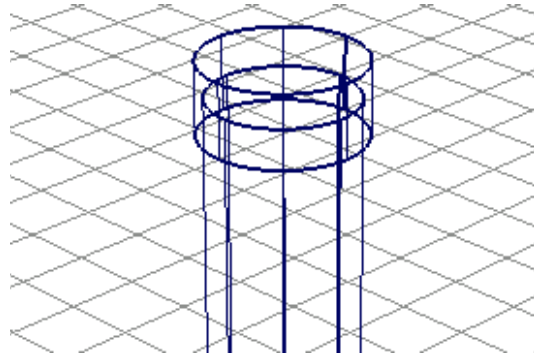

Figure 2-120 Model after scaling the eraser holder
2. Enter **110, 110, 50** in the promptline and press ENTER; the eraser holder is scaled, as shown in Figure 2-120.